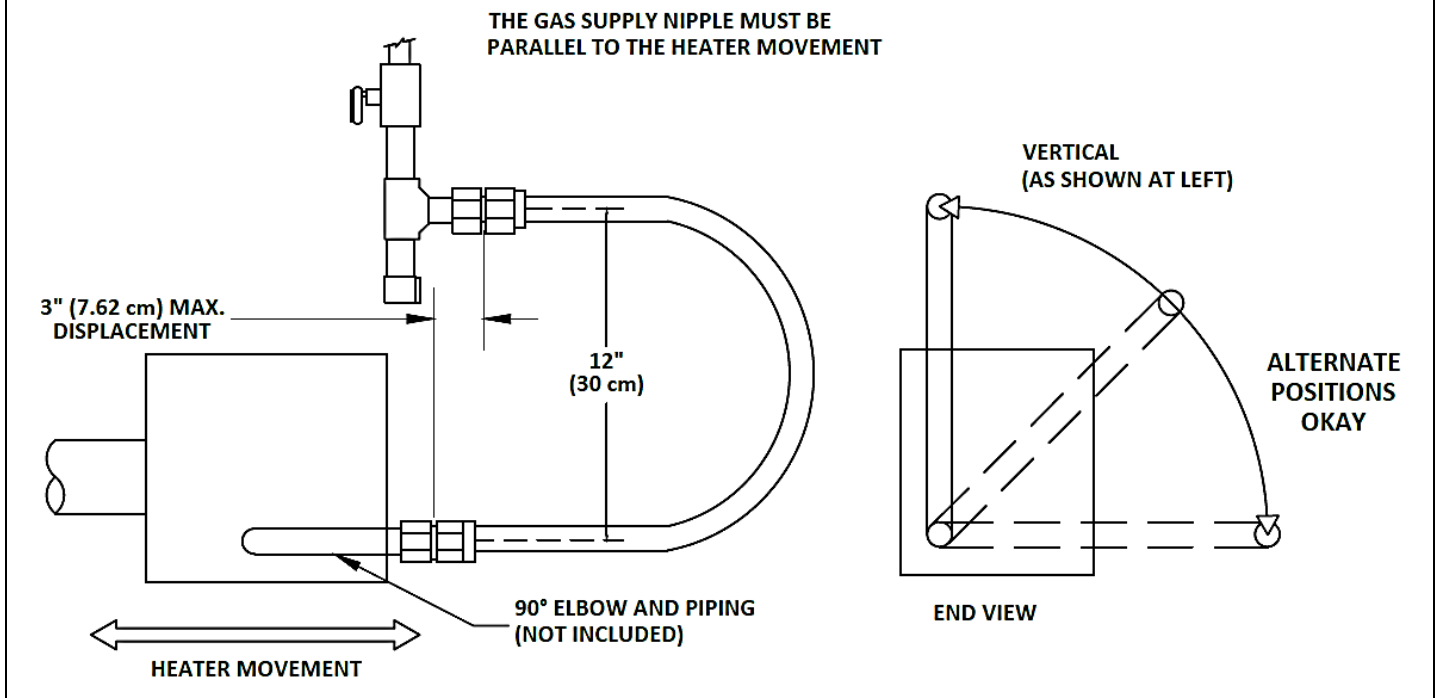

Figure 56. GAS LINE CONNECTION WITH CERTIFIED FLEXIBLE GAS CONNECTION
If the gas connection is not installed in strict accordance as shown in Figure 56, a gas leak can occur resulting in an extreme unsafe condition.
**"Certified connectors are recommended to be installed as shown, (Figure 56, page 66) in one plane, and without sharp bends, kinks, or twists. The gas take off must be parallel to the burner gas inlet connection. "**